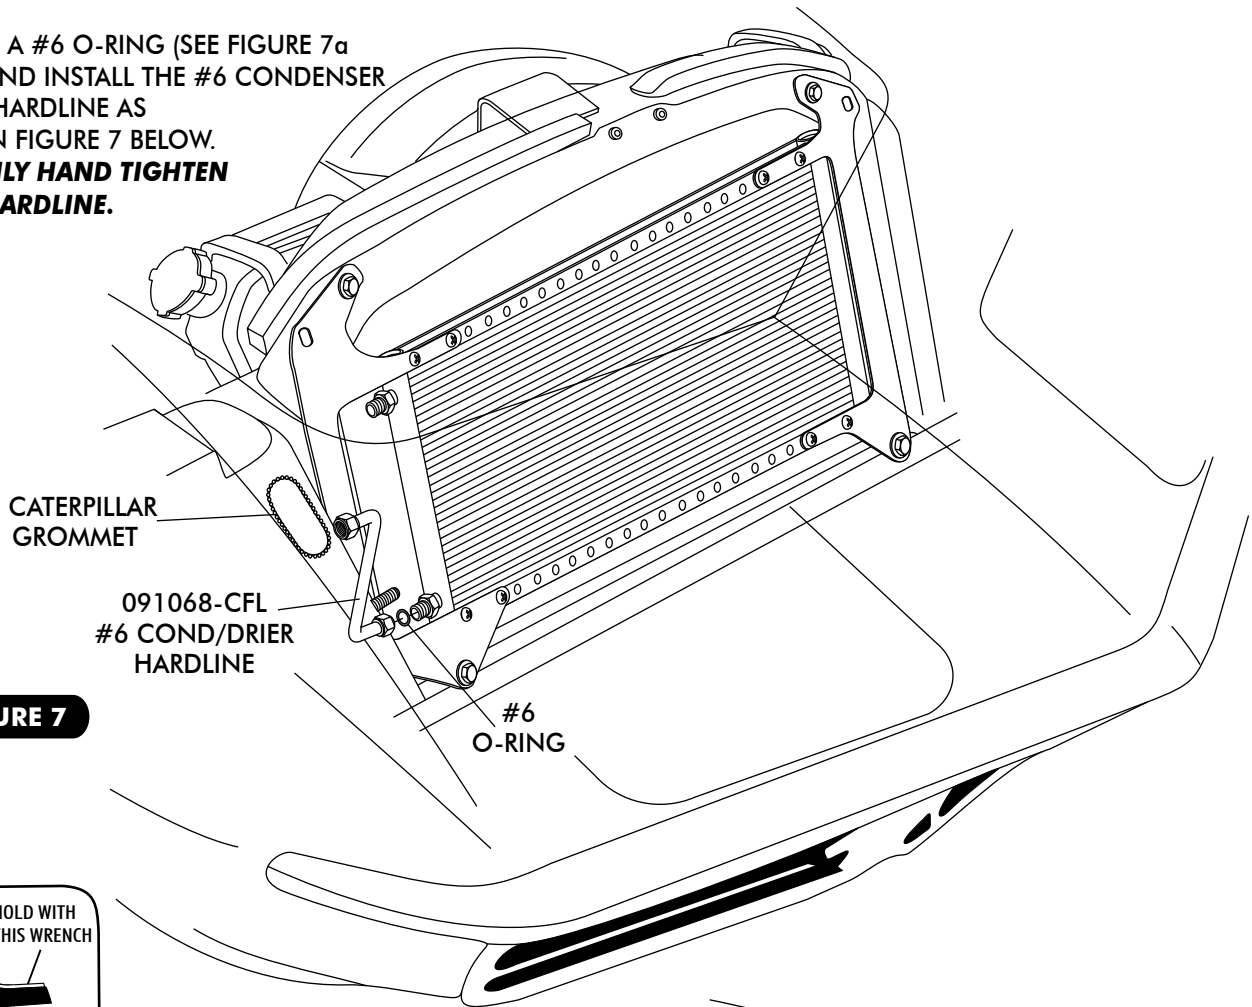
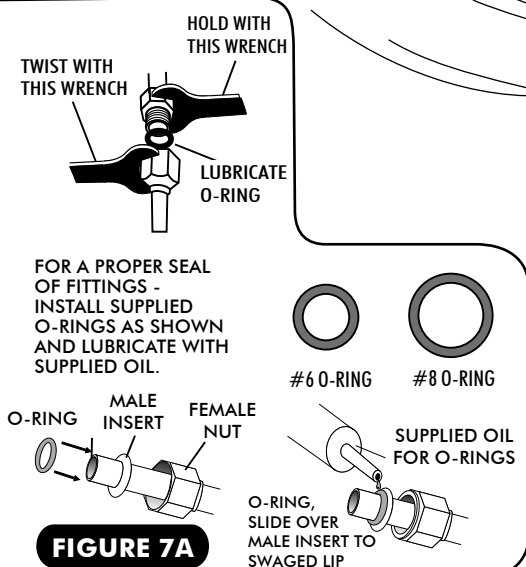
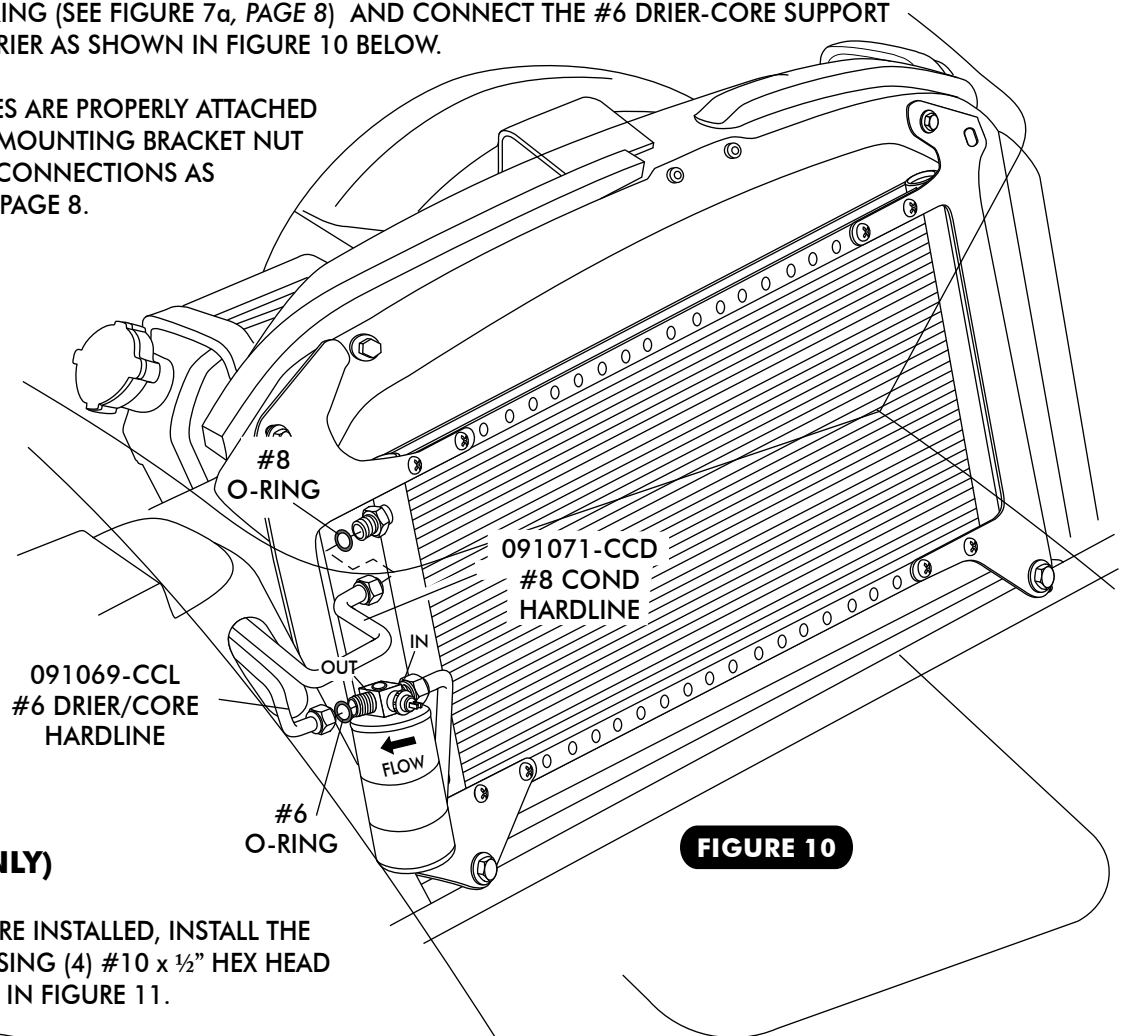

FIGURE 7
FIGURE 7A
FIGURE 10
□ INSTALL CATERPILLAR GROMMET AROUND THE FRONT AND REAR HOLES IN THE INNER FENDERWELL AS SHOWN IN FIGURE 7 AND 7b.
□ LUBRICATE A #6 O-RING (SEE FIGURE 7a BELOW) AND INSTALL THE #6 CONDENSER TO DRIER HARDLINE AS SHOWN IN FIGURE 7 BELOW.
- ☐ LUBRICATE A #6 O-RING (SEE FIGURE 7a, PAGE 8) AND CONNECT THE #6 CONDENSER TO DRIER HARDLINE TO THE DRIER AS SHOWN IN FIGURE 9 BELOW. **NOTE: ONLY HAND TIGHTEN THE #6 HARDLINE.**
- ☐ LUBRICATE A #8 O-RING (SEE FIGURE 7a, PAGE 8) AND CONNECT THE #8 CONDENSER-CORE SUPPORT HARDLINE TO THE CONDENSER AS SHOWN IN FIGURE 10 BELOW.
- ☐ LUBRICATE A #6 O-RING (SEE FIGURE 7a, PAGE 8) AND CONNECT THE #6 DRIER-CORE SUPPORT HARDLINE TO THE DRIER AS SHOWN IN FIGURE 10 BELOW.
- ☐ ONCE ALL HARDLINES ARE PROPERLY ATTACHED TIGHTEN THE DRIER MOUNTING BRACKET NUT AND ALL HARDLINE CONNECTIONS AS SHOWN FIGURE 7a, PAGE 8.